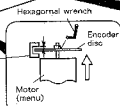
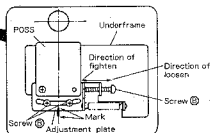
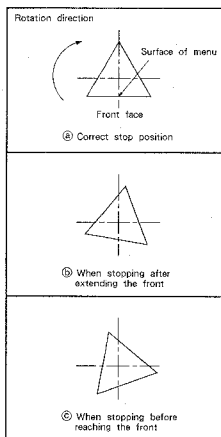

Fig. 7-2
Fig. 7-3
Fig. 7-4
- Loosen screw ② which holds the encoder disc using a hexagonal wrench.
- Loosen screw ③ which holds the adjustment plate.
- (1) Set the gap between the encoder disc and photo interrupter of the motor (menu) to 1.2 mm. (Fig. 7-2)
- (2) Fix the screw of the encoder disc by tightening with a hex wrench.
- (3) Turn screw ③ so that the carved mark on the adjustment plate aligns with the underframe. Then temporarily tighten screw ③.
- (4) Push the ROTATE MENU key on the front panel of the main unit so that menu rotates. Then, perform the following adjustments depending on the condition. (Fig. 7-3)
- Loosen screw ④, then tighten screw ⑤ turning it clockwise.
- Loosen screw ④ and turn screw ⑤ counterclockwise to loosen it.
- (5) Turn the menu again and firmly tighten screw ④ when the menu stops directing its surfaces to the front. (Fig. 7-4 ④)
- (6) Finally, turn the menu and check that the menu stops directing all of its three surfaces to the front at every 120° rotation.